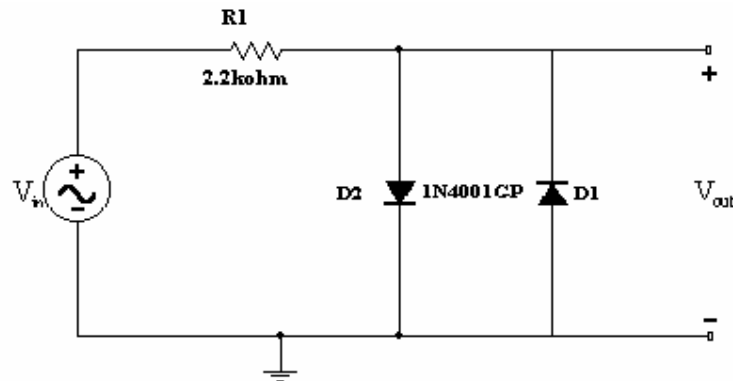

Fig.6: Double Limiter
8. Construct the clipping circuit shown in Figure 6. Record the measured value of the resistor. Set the function generator to a 1 KHz, $0.8-V_{p-p}$ sine wave.
12. Determine the theoretical output voltage V_{out} for the circuit of Figure 6 and sketch its waveform for one full cycle using the same sensitivities employed in step (11). Indicate the maximum and minimum values on the output waveform. Compare the results of step (11) and (12)?